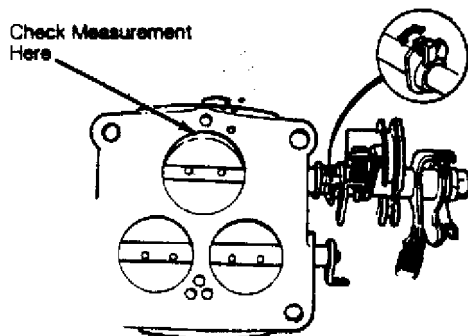

Fig. 11: Checking Throttle Valve Clearance
3) If the clearance is not within .043-.067" (1.1-1.7 mm), bend the tab until the proper clearance is obtained. See Fig. 11.